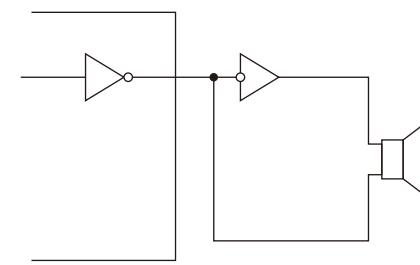

Fig. 2 Example of BTL Drive Circuit
(2) In a case that is driven by IC directly like as Fig. 2, input voltage of Piezoelectric sound components should be twice as high because of the BTL (Bridge Tied Load) drive circuit, which includes an inverter.
When the piezoelectric diaphragm oscillates freely in air, the node does not move as shown in Fig. 1. With this point held with a measuring terminal, the resonant frequency (f_0) and resonant impedance (R_0) are measured in the constant-current circuit as shown in Fig. 2.